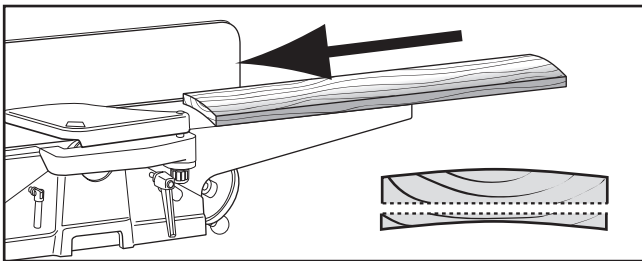

Figure 41. Surface planing on the jointer.
1. **Surface Plane on the Jointer:** The concave face of the workpiece is surface planed flat with the jointer (see **Figure 41**).